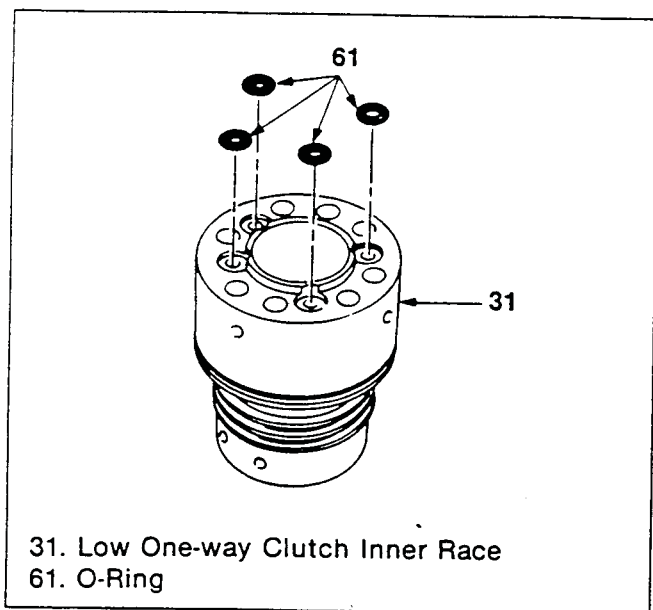

Figure 231. Low One-way Clutch Inner Race O-Ring Installation
4. Apply Vaseline to four new O-rings and attach them in the designated positions in the inner race (figure 231).